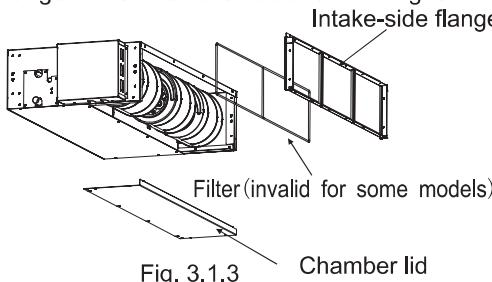

Fig. 3.1.3 Chamber lid
- (1) Remove the intake-side flange, then remove the chamber lid. Refer to Fig. 3.1.3 for the directions.